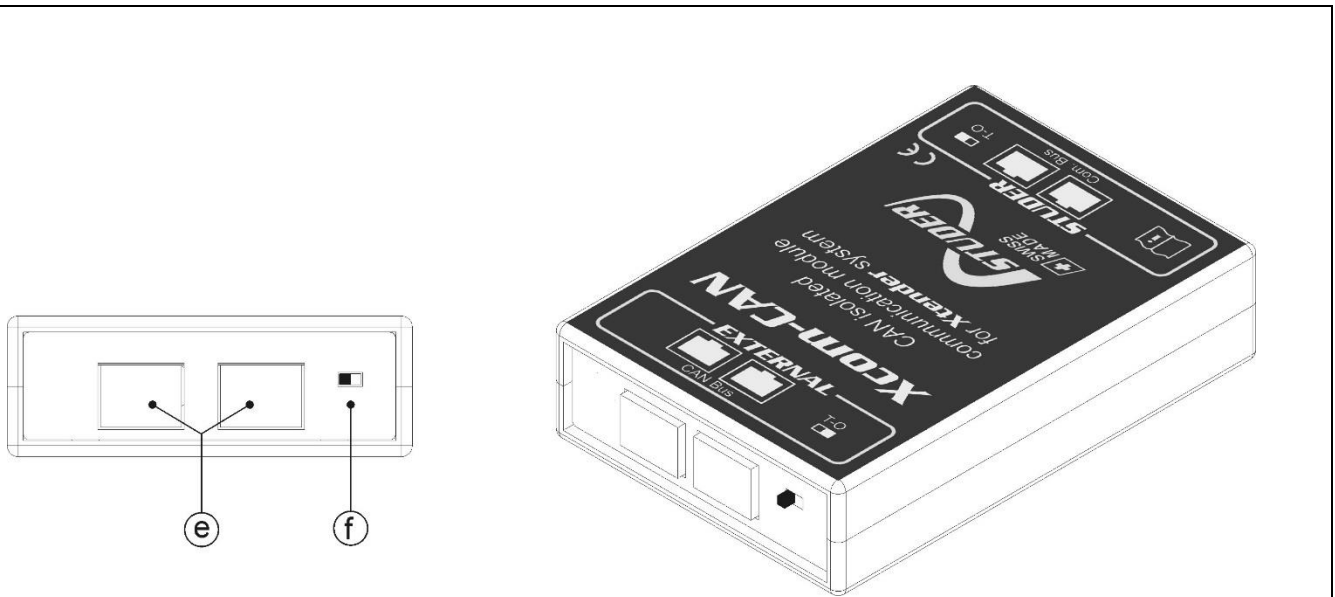

Figure 3: Back and isometric view of the Xcom-CAN
(f)	<p>Switch for CAN termination</p> <p>This switch activates or deactivates the communication bus termination. The termination is by default activated. In Figure 3, the termination is activated (T).</p>